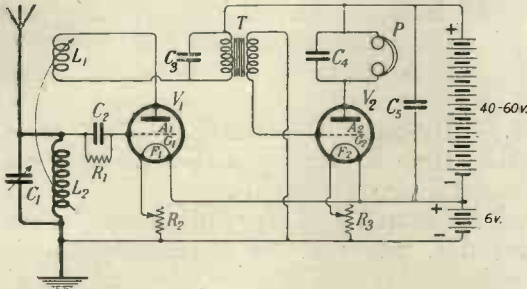

Fig. 1. Circuit of the low-frequency amplifying set.
called, "note" magnification, such as is shown in Fig. 1. To build up this set we shall require the following parts :
Referring to Fig. 1, the first valve ( $V_1$ ) functions as a detector of the radio-frequency oscillations impressed on its grid through the medium of the circuit  $C_1L_2$ , passing on this rectified current through the iron-cored transformer (T) to the grid of the second valve ( $V_2$ ), in the plate circuit of which are the telephones (P). Let us now consider the various parts of the circuit, their functions, and any points of interest which may help the experimenter in the choice of his parts.
**Coil Holder.**—Many good and inexpensive ones are now procurable, but the amateur should choose one the mechanical design of which is such that continuous working will not tend to work loose the spindles carrying the rotating holder. One make in particular is to be recommended, in which the moving coil is brought near to, or farther away from, the fixed one by means of an ingenious device, whereby the vertical axes of the coils remain parallel even in the position of minimum coupling. In the circuit shown in Fig. 1 the coil  $L_2$  is the tuning coil, and should be placed in the fixed holder, while the reaction coil is the movable one, thus permitting the "boosting" up of spark signals, or, by increasing the coupling between it and  $L_2$ , the circuit may be thrown into oscillation, thus giving the autodyne method of receiving continuous wave signals. If, however, this circuit is used on broadcast wavelengths, it is essential that this reaction coil should be removed from its holder, and a dummy short-circuiting plug put in its place.